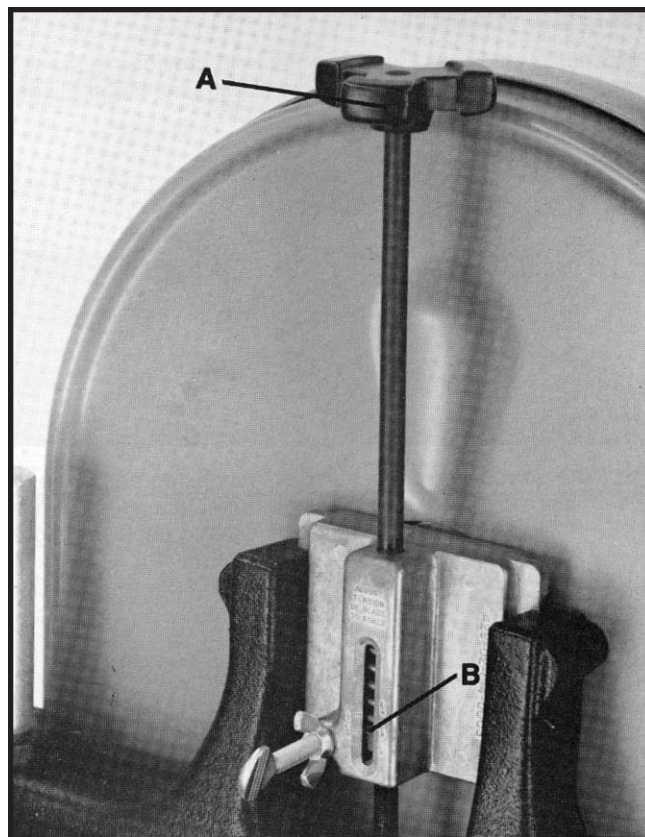

Fig. 18
On the back of the upper wheel slide bracket, there is a series of graduations. These indicate the proper tension for various widths of blades. With the blade on the wheels, turn the knob (A) Fig. 18, to raise or lower the wheel, until the red fiber washer (B) is in line with the proper graduation for the size of blade being used.